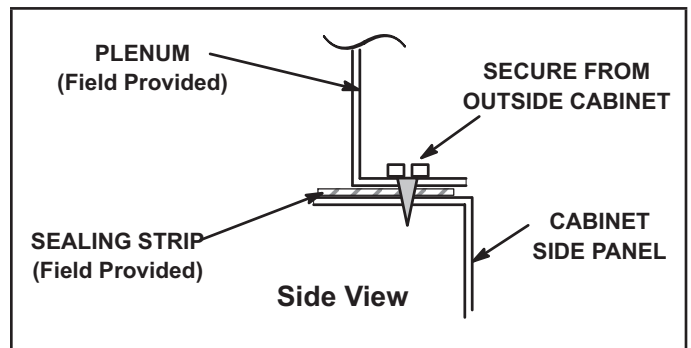

**FIGURE 16**
**Installation on Cooling Coil Cabinet Figure 16**